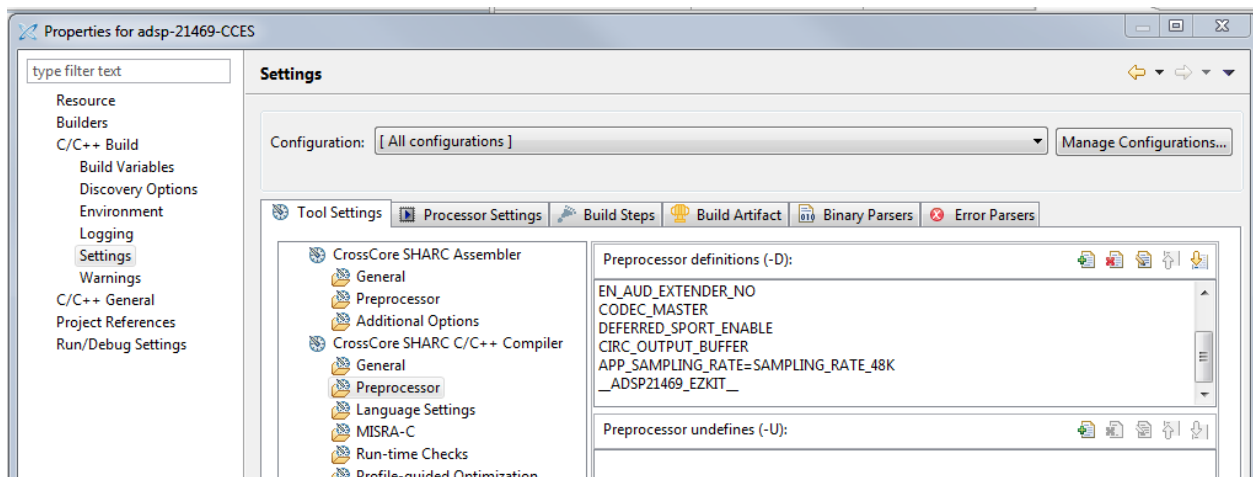

Figure 2: CCES Project Properties – Compiler Preprocessor
- 2) Open the project properties window. Select CrossCore SHARC C/C++ Compiler → Preprocessor. Refer to Figure 2 which shows a snapshot of this for ADSP-21469 processor.